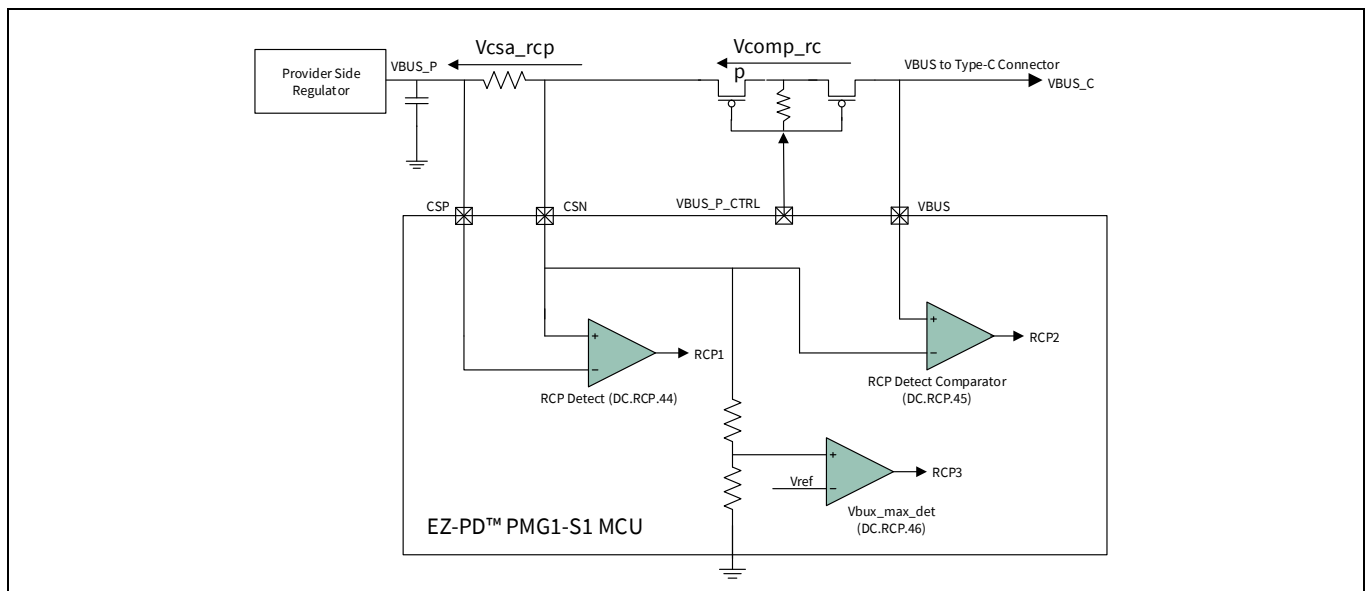

Figure 6 RCP mechanism
EZ-PD™ PMG1-S1 has three distinct mechanisms to detect the reverse current as shown in **Figure 6**.
- Mechanism 1: A comparator senses the voltage drop across external Rsense through pins CSP and CSN. This comparator signals an RCP event whenever $CSN > CSP$ by the Vcsa_rcp voltage given in **Table 34**. The output of this comparator RCP1 is shown in **Figure 6**.
- Mechanism 2: A comparator senses the voltage drop across provider FET through CSN and VBUS pin of EZ-PD™ PMG1-S1. This comparator signals an RCP event whenever $VBUS > CSN$ by the Vcomp_rcp voltage given in **Table 34**. The output of this comparator RCP2 is shown in **Figure 6**.
- Mechanism 3: A comparator senses the 20% voltage of the CSN pin and compares it against $V_{ref} = 1.15\text{ V}$ for 5-V provider VBUS application. This comparator signals an RCP event whenever CSN voltage goes above Vbus_max_det voltage given in **Table 34** for a 5-V application. The output of this comparator RCP3 is shown in **Figure 6**. Note that Vref is programmable and the voltage divider has an option to use 10% or 20% value. For a higher voltage of the provider, the VBUS device automatically adjusts this threshold.